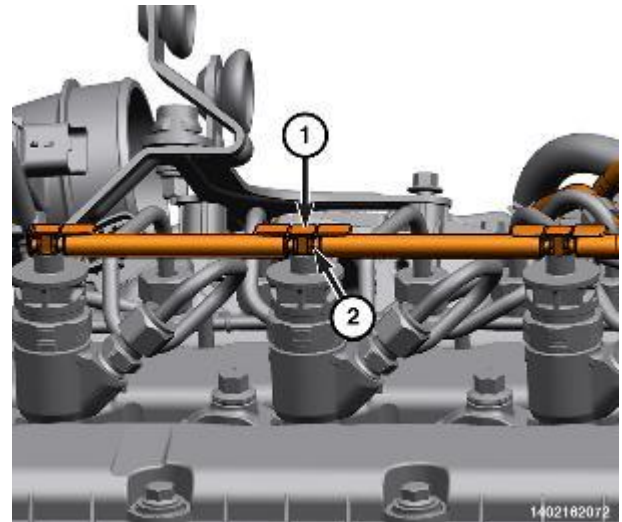

Figure 105 – Fuel Return Hoses
- 22. Lift up on locking tabs (1) to unlock the locks (2) on the right bank fuel return hoses on the tops of the injectors (Figure 105).
- 23. Remove the fuel return hoses (2) by wiggling hoses free from the fuel injector (Figure 105).